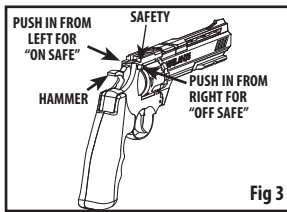

Fig 3
- Locate the safety below the rear sight. (Fig. 3) Pull the hammer back slightly and with your other hand, push the safety from the left side all the way in. The safety is not "On Safe" unless it is pushed all the way in and the RED mark on the left side of the safety is NOT showing.
- Put the air pistol "ON SAFE" (Fig. 3).